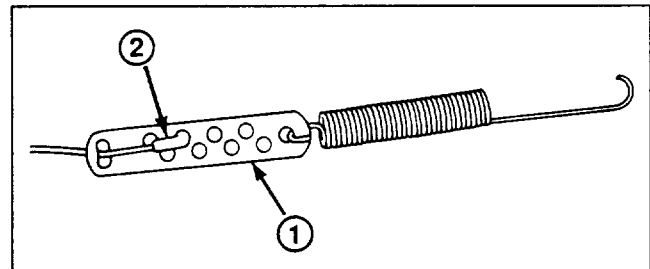

Figure 10
3. **ADJUST CABLE** (Fig. 10) — Unhook spring end from the bottom hole in control bar bracket. Slide